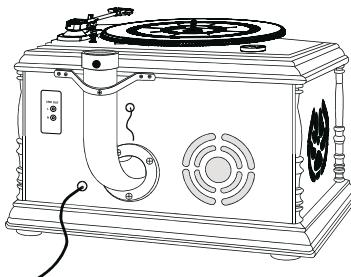

Fig. 8.
7. Look at the **Fig8**. It shows the assembled RTCC411RIP host cabinet with the U-type bracket (B) apparatus.